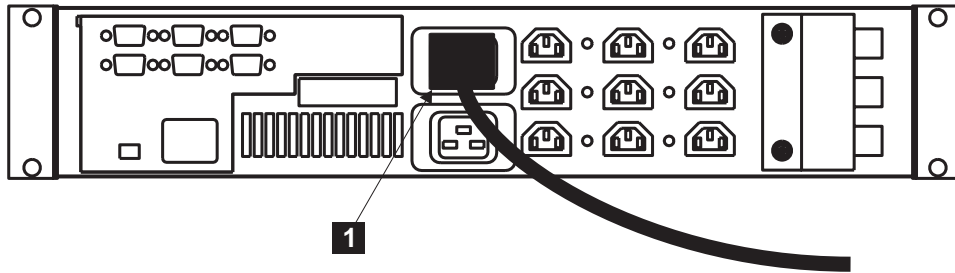

Figure 41. Installing the 2145 UPS power cable
9. At the back of the 2145 UPS, plug the 2145 UPS main power cable (**1** in Figure 41 on page 64) into the power socket.